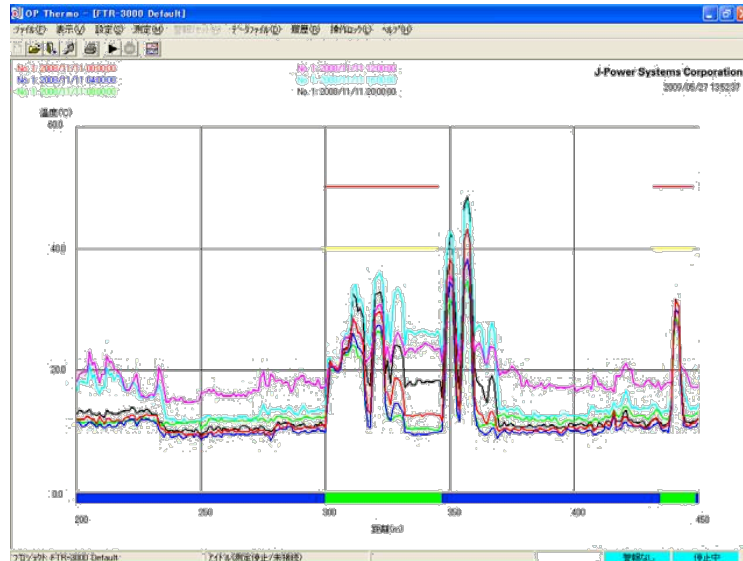

Fig.1. Example: display view
(1) Temp. data display	max. 8 data visible simultaneously (Refer to Fig.1)
(2) Temp. Alarm Detection	Upper threshold decision: 2 levels Lower threshold decision: 2 levels Rate of Rise decision: 2 levels
(3) No. of Applicable Alarm section	Up to 400 sections
(4) Alarm indication	Alarm window Pop-Up / Beep Alarm output contacts (DO board is required on control PC)
(5) Historical Record	Temperature alarm monitoring / System alarm monitoring
(6) Statistical Data	1record/day Temperature (Max, Low, Average) / Location (Max, Low) / time (Max, Low) 1record/trace Temperature (Max, Low, Average) / Location (Max, Low) / time (Max, Low)
(7) Data convert	CSV convert is available